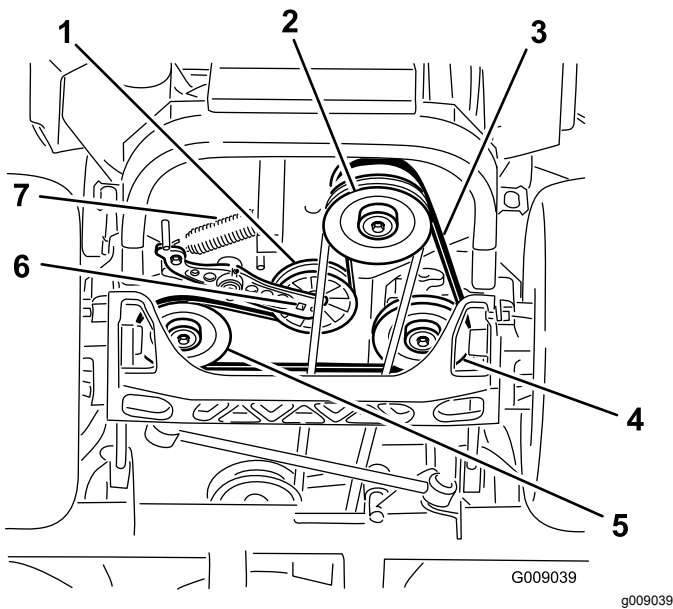

Figure 76
4. Raise the machine and support it with jack stands (Figure 76).
5. Use a ratchet in the square hole in the idler arm to remove the idler spring (Figure 76).
6. Unhook the idler spring from the frame (Figure 76).
9. Using a ratchet in the square hole in the idler arm, install the idler spring to the frame (Figure 76).